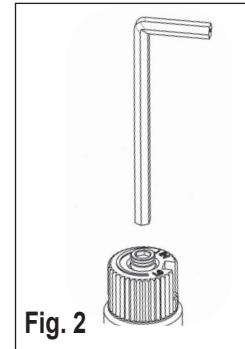

Fig. 2
- Insert a 5/32" or 4 mm Allen wrench into the exagonal key-way of the screw (fig. 2), rotate it counter-clockwise until it is free and extract it.